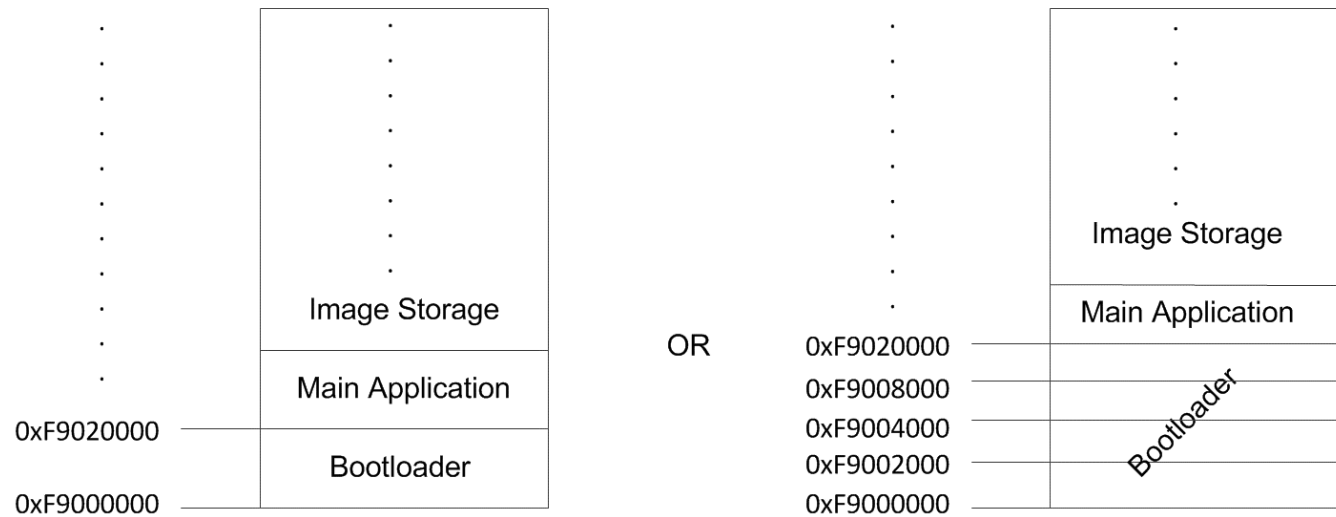

Figure 32. Boot Flash Memory Layout
All applications require both the controller and DMD components for reliable operation. The system uses an external parallel flash memory device loaded with the DLPC900 configuration and support firmware. The external boot flash must contain a minimum of 2 sectors, where the first sector starts at address 0xF9000000 which is the power-up reset start address. The first 128 kB is reserved for the bootloader image and must be in its own sector and can be made up of several smaller contiguous sectors that add up to 128 kB as shown in Figure 32. The remaining sectors contains the rest of the firmware. The default wait-states is set for a flash device of 120-ns access time. For a faster flash access time, refer to the Program Memory Flash Interface on how to program new wait-state values.
- PM_CSZ_1 – dedicated CS for boot flash device (≤ 128 Mb). Refer to the Figure 32 for the memory layout of the boot flash.